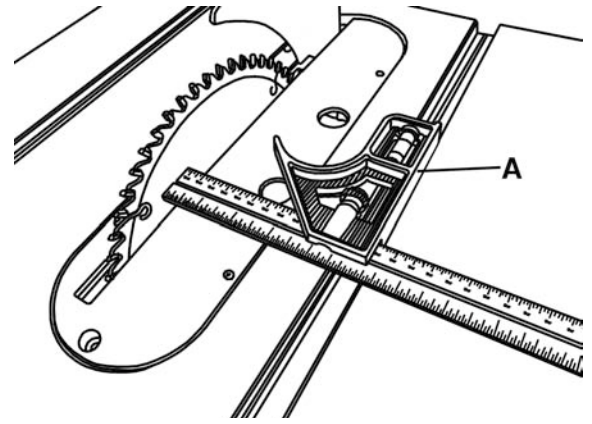

FIGURE 20
The table T-slot must be aligned parallel with the blade. Using a combination square (A) Fig.20, measure the distance from the back edge of the blade to the table T-slot. Pivot blade forward 180° and remeasure the distance using the exact same point on the blade. The difference between both measurements must be equal to or less than 1/64".